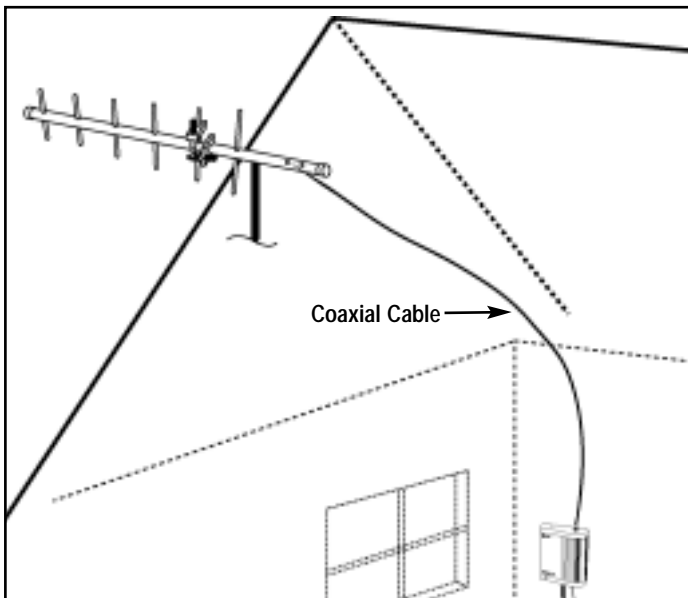

Fig. 2 Optional high-gain antenna installed on the building's exterior. Always direct the antenna toward the nearest cell tower of your service provider.
- Preferably, the antenna should be mounted on the building's exterior – see Fig. 2.